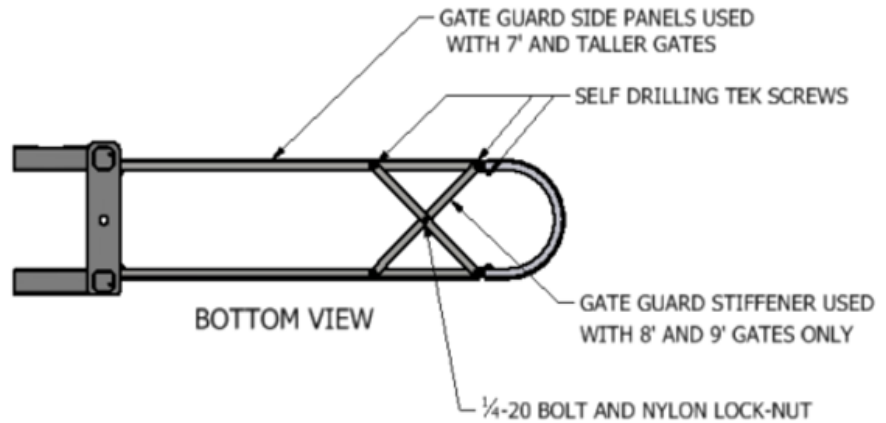

Figure 4
- Attach Gate Guard Stiffener to the bottom of the Gate Guard Side Panels with (4) Tek screws as shown in **FIGURE 4**.